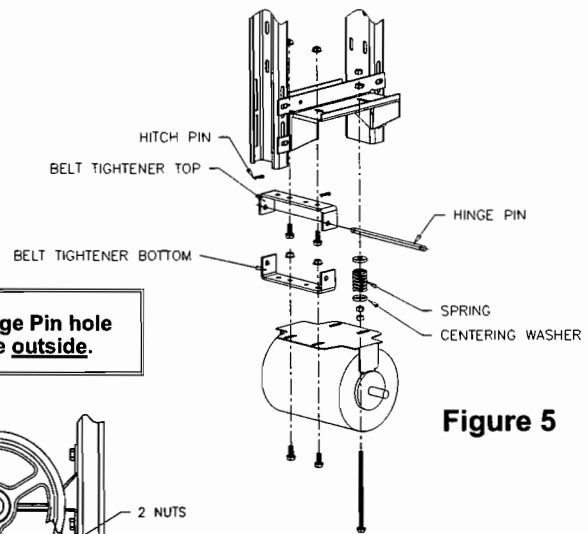

Figure 5
3. Remove the motor base from the fan and move the motor base mounting bolts into the next slot closer to the fan shaft. Mount the belt tightener bottom to the fan motor base as shown in Figure 5 using the existing motor mounting bolts.
4. Attach the belt tightener top to the motor as shown in Figure 5 using the existing motor mounting bolts.
5. Mount the motor to the fan by aligning the belt tightener hinge pin holes and inserting the hinge pin. Secure the hinge pin with two hitch pins as shown in Figure 5.
6. Install the 5/16" x 6" bolts, nuts, cup washers and spring as shown in Figures 5 and 6. Note: Screw the first nut all the way down against the motor but do not tighten. Run the second nut approximately two-thirds (2/3) the way down the bolt. The last two nuts should be locked together on the end of the bolt.